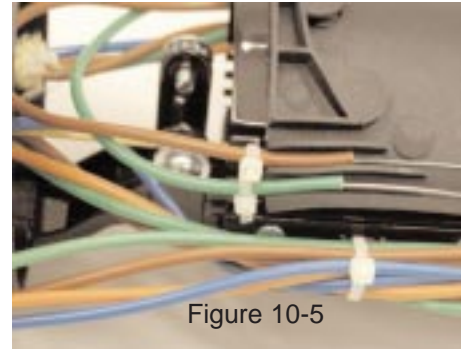

Figure 10-5
**10.05** Secure tubes to be spliced to fiber splice tray with tie wraps. Excess fiber may be stored by looping tube group around the perimeter of tray. (Figure 10-5)